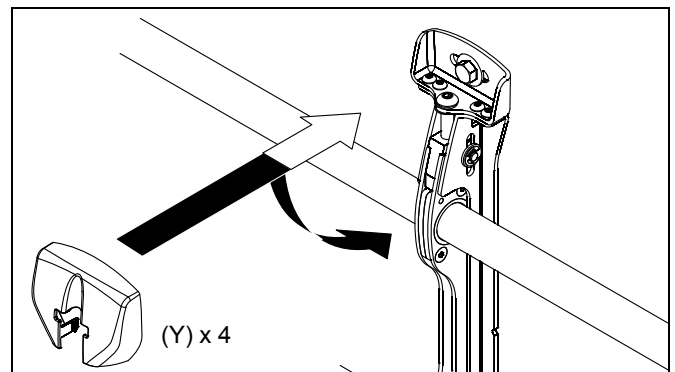

Figure 9
1. (LSMVU only) Attach wall bracket caps (Y) to top and bottom of both wall brackets. (See Figure 9)